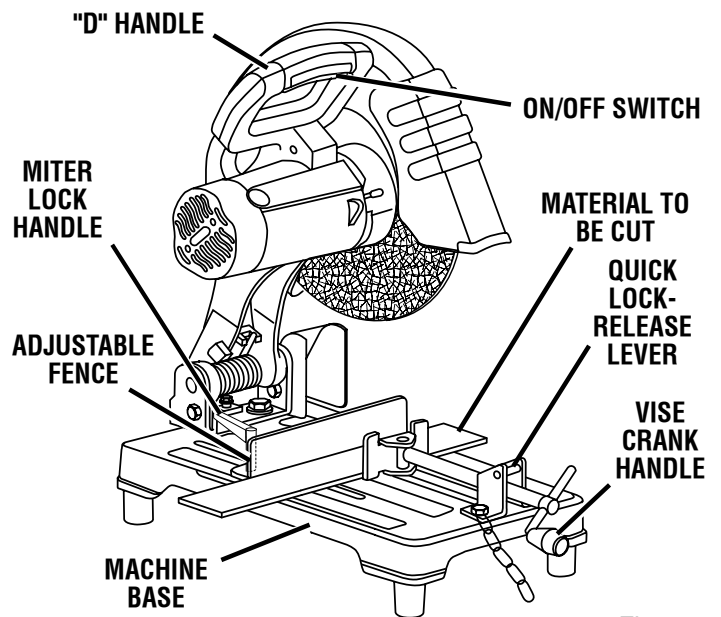

Fig. 7
See Figures 7 and 8.
- Loosen the miter lock handle securing the fence. See Figures 7 and 8.